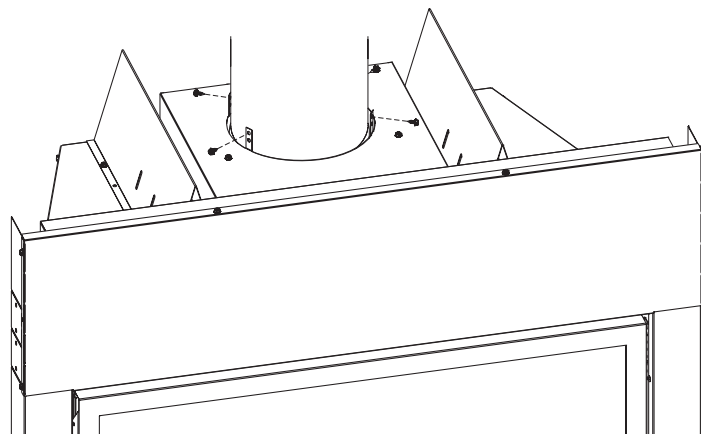

**Figure 22**
1. Hand bend the tabs up on the Outer Wrapper Top Assembly as shown in **Figure 22**.